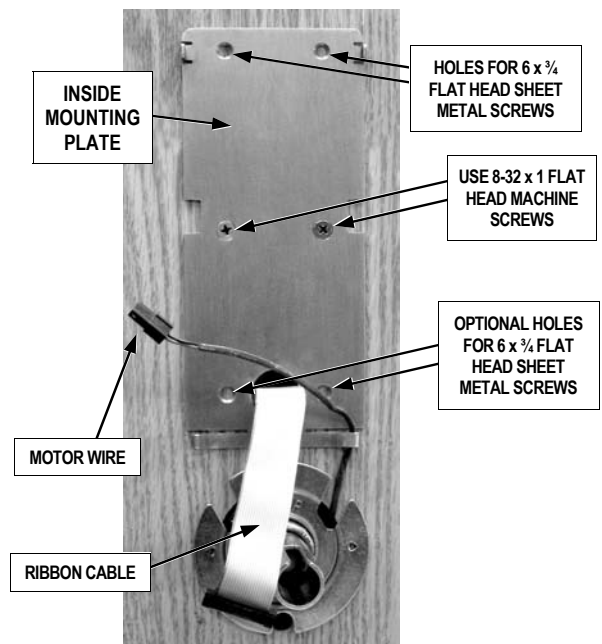

FIG. 13: INSIDE MOUNTING PLATE INSTALLATION
2. Position inside mounting plate and pull the ribbon cable through the mounting plate opening—be sure not to pinch or cut the wires. Fasten inside mounting plate with two 6 x 3/4 flat head sheet metal screws and two 8-32 x 1 flat head machine screws as shown in Fig. 13 (do not over-tighten). The two bottom screws are optional. **Note:** Be sure the mounting plate is perfectly vertical before installing sheet metal screws. See Fig. 13 for screw locations. **Note:** As you tighten the screws, the inside mounting plate pulls in and secures the outside lock body to the door.